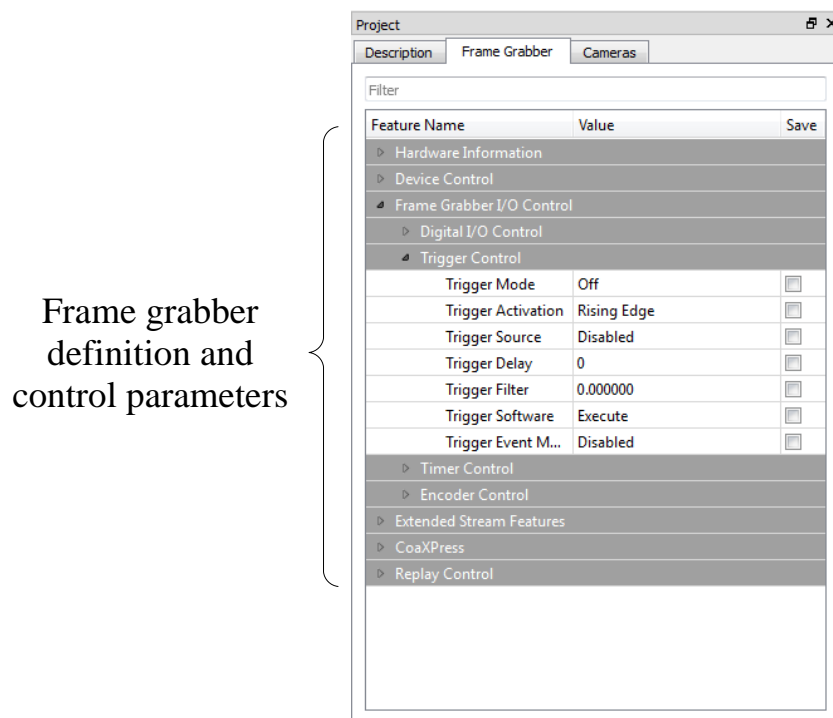

Figure 6 : Frame Grabber navigator tab
3. A Frame Grabber tab, describing Frame Grabber related information and configurations, e.g. I/O control and hardware information. These are controlled using GenCam interface. The Frame Grabber tab is shown in Figure 6.